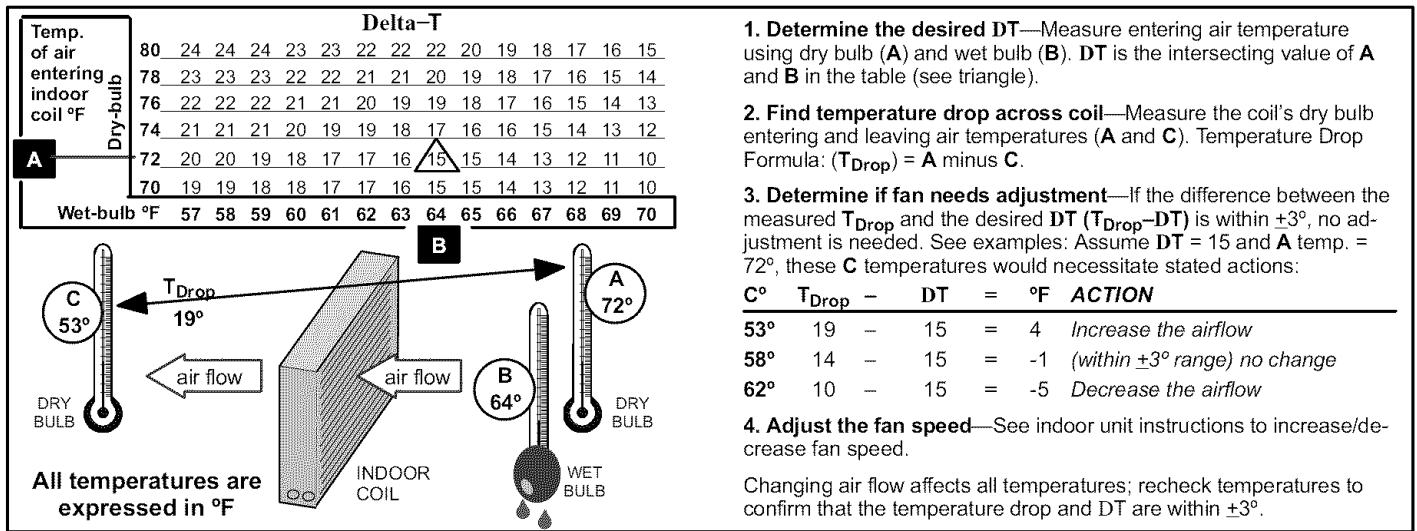

Figure 27. Checking Indoor Airflow over Evaporator Coil using Delta-T Chart
Check airflow using the Delta-T (DT) process using the illustration in figure 27.